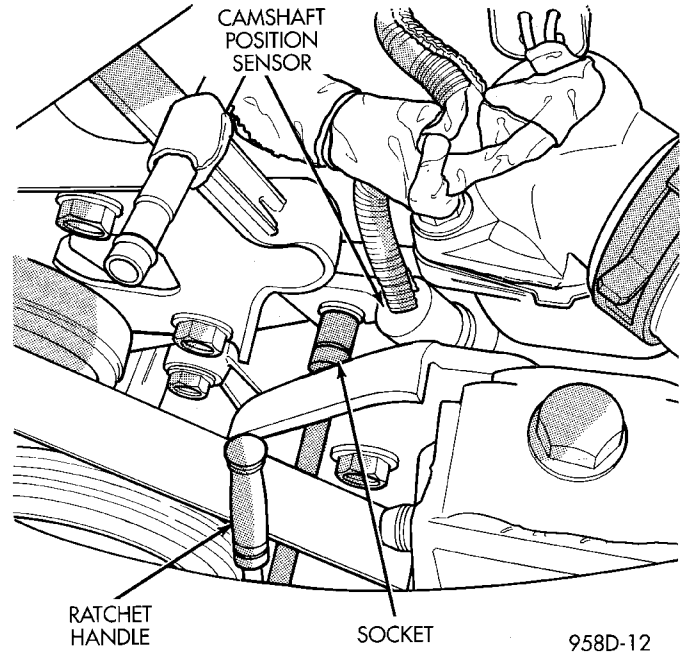

Fig. 6 Camshaft Sensor Bolt Removal/Installation
- (2) Remove bolt holding sensor (Fig. 6). **There is a hole in the bracket for tool access to the sensor bolt.**